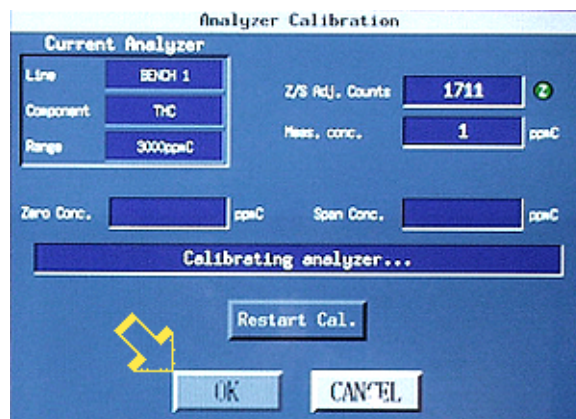

Figure 10
- 113 The “Analyzer Calibration” screen will appear, see Figure 10. An automatic zero and span calibration of the analyzer will occur.
The indicator flashes “Z” during zero and “S” during span. The procedure will take several minutes. When the message “Calibration successfully completed” appears, click on “OK.” See the arrow in Figure 10.